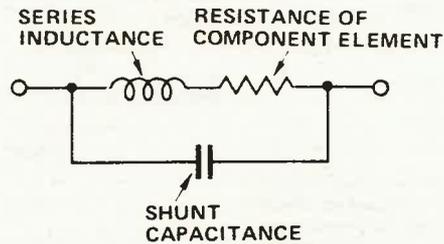

Fig.1. Equivalent circuit of practical resistor.
**Frequency Effects** — All resistors have an inherent small amount of inductance and capacitance and this affects the way they behave at high frequencies and above. The length of the actual resistance path in the resistor and the length of the leads contributes inductance in series with the apparent dc resistance. Capacitance, which may be distributed along the resistor body or through the resistance path, contributes capacitance which is effectively in parallel with the apparent dc resistance. This changes what should look like an ordinary resistor into a circuit like that in Fig. 1. The actual amount of series inductance and shunt capacitance depends largely on the type of resistor and its construction. Some styles of resistor are constructed to minimise these effects.